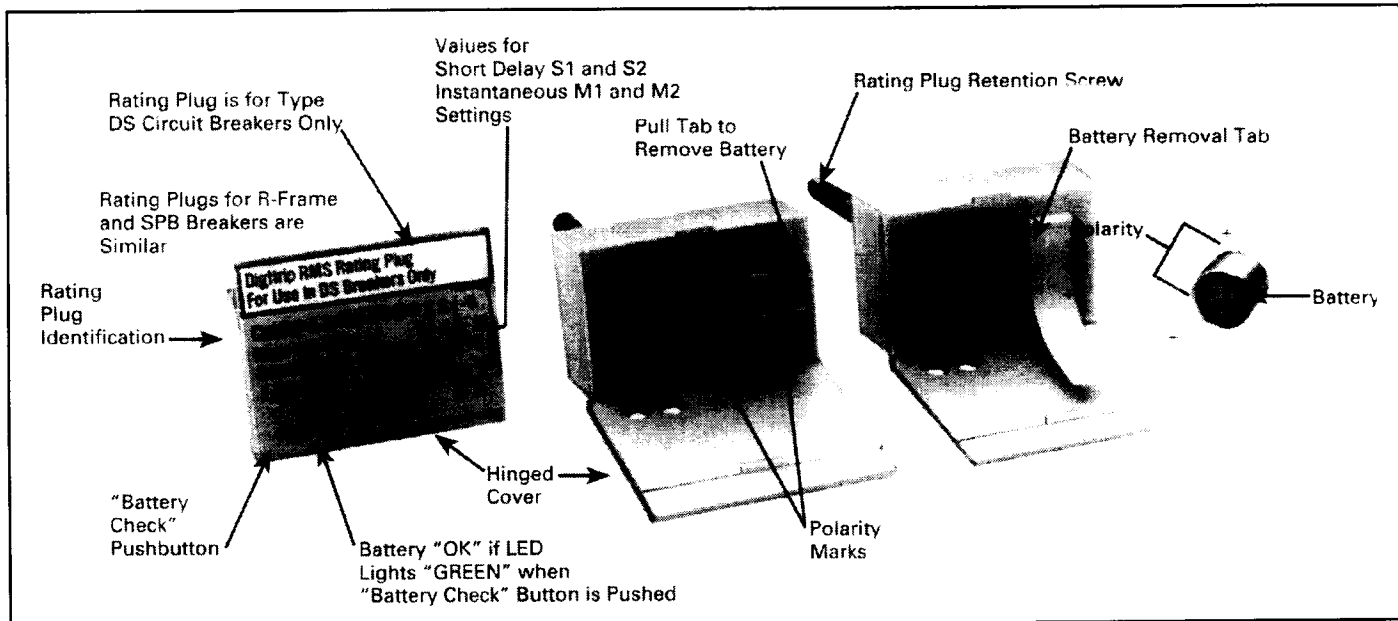
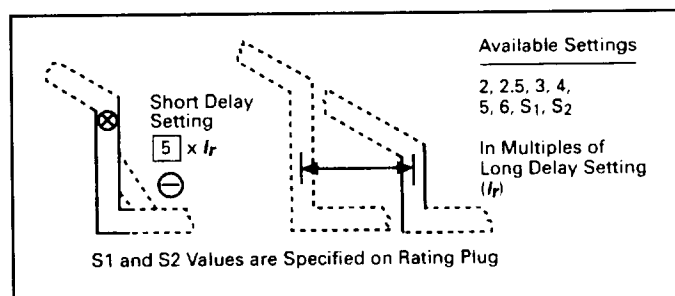
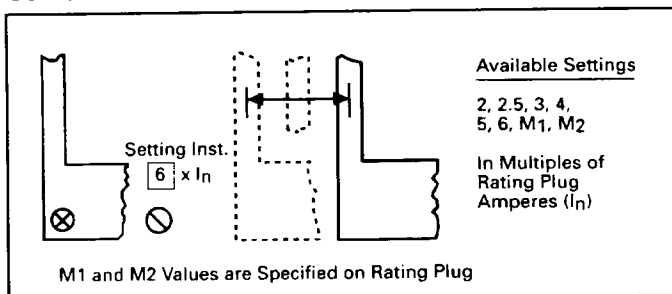

Fig. 4 Rating Plug
Fig. 8.3 Short Delay Current Settings
Fig. 8.5 Instantaneous Current Settings
The **Rating Plug** (See Fig. 4) fits into a special cavity to complete the Trip Unit (See Fig. 1).
Rating plugs have two current ratings listed on their covers (See Fig. 4).
There are eight (8) available Short Delay “Pick-up” Current Settings, as illustrated in Fig. 8.3. Six settings are in the range from 2 to 6 times  $I_r$  and the other two settings are “S1” or “S2” times  $I_r$ . (REMEMBER:  $I_r$  is the Long Delay Current Setting). The values that “S1” and “S2” have depend upon the type of circuit breaker, and are specified both on the rating plug label (see Fig. 4) and on the applicable (LS) Time-Current Curve referenced in Section 5.
There are eight (8) available Instantaneous Current Settings, as illustrated in Fig. 8.5. Six settings are in the range from 2 to 6 times the rating plug value ( $I_n$ ), and the other two settings are "M1" and "M2" times ( $I_n$ ). The values that "M1" and "M2" have depend upon the type of circuit breaker, and are specified both on the rating plug label (see Fig. 4), and on the applicable (I) Time-Current Curve referenced in Section 5.